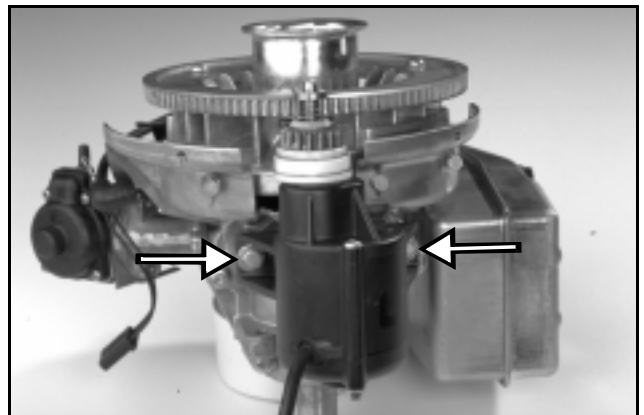

Figure 93
1. Remove the upper housing. Remove the starter switch, the bolt holding the wire clip, and the two bolts which mount the starter to the engine. (See Figure 93.)